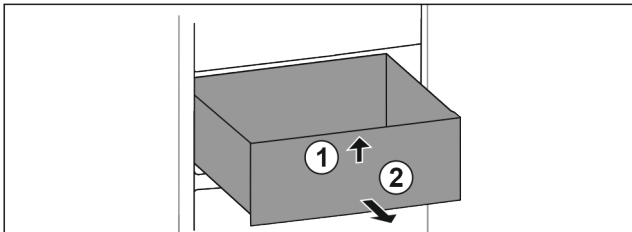

Fig. 67
- ▶ Lift up drawer at the front. Fig. 67 (1)
- ▶ Remove drawer to the front. Fig. 67 (2)